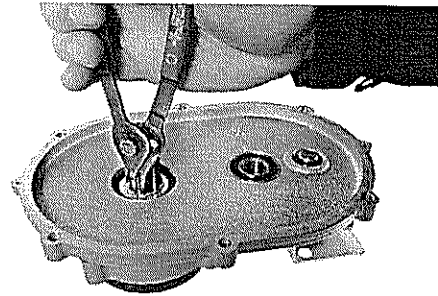

FIGURE 23
6. Using snap ring pliers, remove snap ring retaining clutch drum/shaft assembly to transmission cover. FIGURE 23